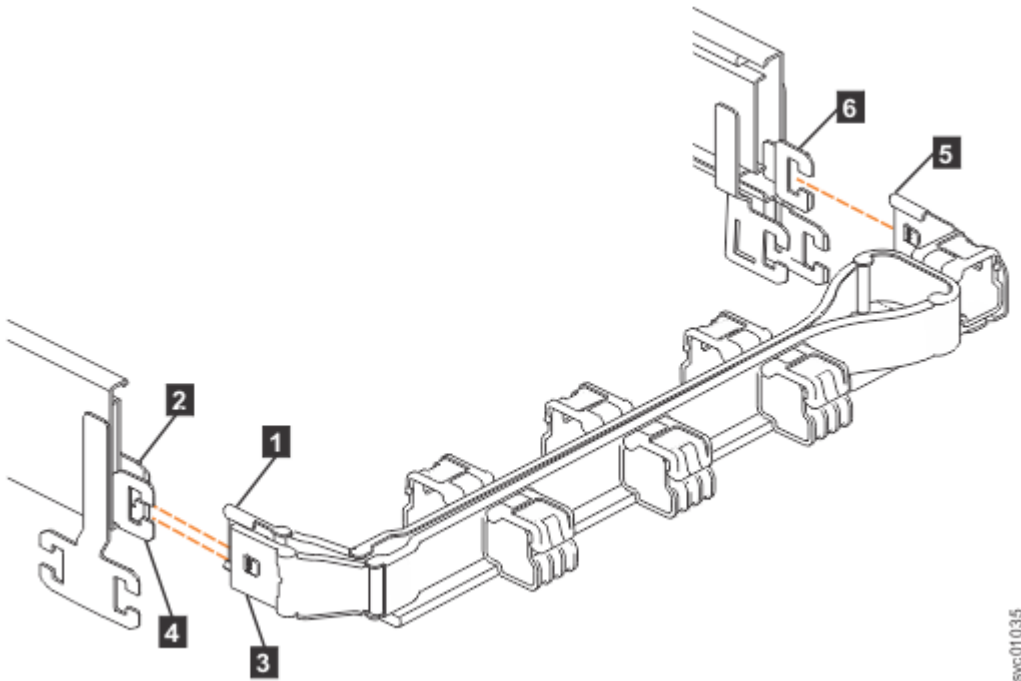
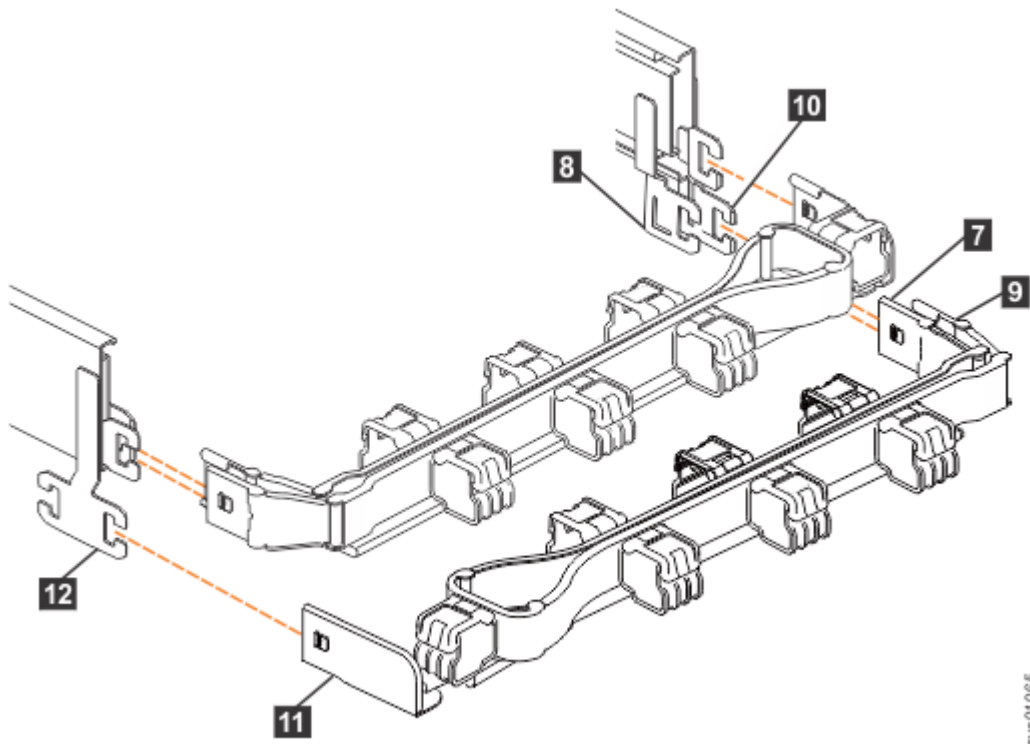

Figure 116. Connectors for the upper cable management arm
Figure 117. Components of the lower CMA assembly
The connectors of the CMA are installed on the rail hooks at the end of the support rails. Figure 116 on page 171 shows the connectors on the upper CMA assembly.
1. Press the latch on the connector base on the upper CMA assembly (**5** in Figure 116 on page 171).
2. Pull the connector to remove it from the connector base on the right support rail (**6** in Figure 116 on page 171).
3. Press the latch on the outer connector of the upper CMA assembly (**3** in Figure 116 on page 171).
4. Remove the outer connector from the inner member of the left support rail (**4** in Figure 116 on page 171).
5. Remove the inner connector of the upper CMA assembly (**1**) from the inner member of the left support rail (**2**), as shown in Figure 116 on page 171.
Note: The procedure for removing the lower CMA assembly is the same as the procedure to remove the upper CMA assembly. However, the connector locations are reversed. For example, the connector base of the upper CMA (**5** in Figure 116 on page 171) connects to the right rail. The connector base of the lower CMA (**11** in Figure 117 on page 172) attaches to the left rail.
6. Remove the connector base on the lower CMA assembly (**11**) from the connector on the left support rail (**12**), as Figure 117 on page 172.
7. Remove the inner connector of the lower CMA assembly (**9**) from the outer member of the right support rail (**10**), as shown in Figure 117 on page 172.
8. Remove the outer connector of the lower CMA assembly (**7**) from the inner member of the right support rail (**8**), as shown in Figure 117 on page 172.